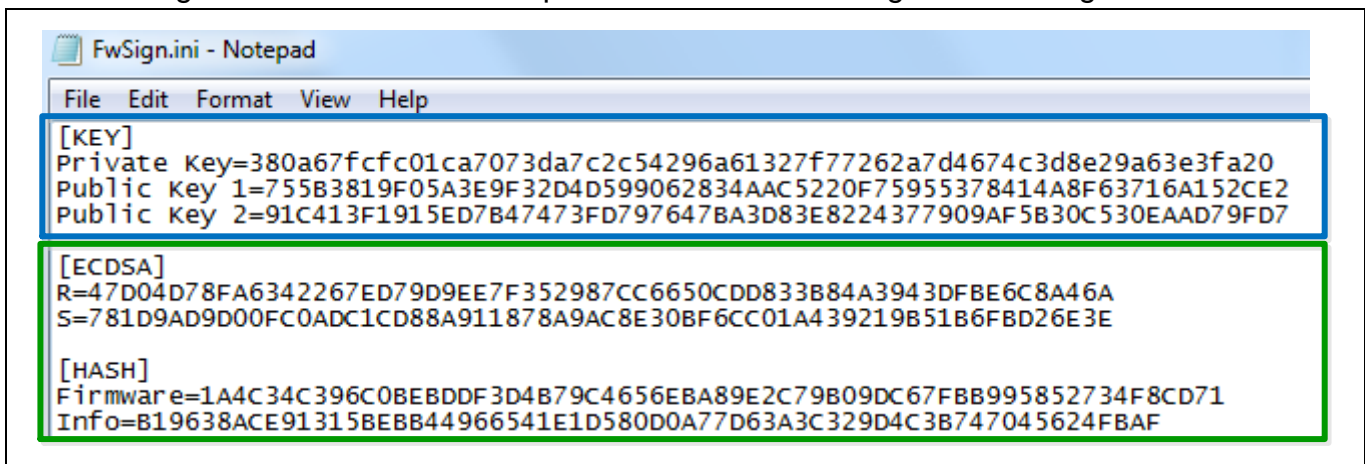

Figure 5-10 FwSign.ini in NuBL2 Project
- Figure 5-10 shows an example of the initial file FwSign.ini of FwSign.exe.